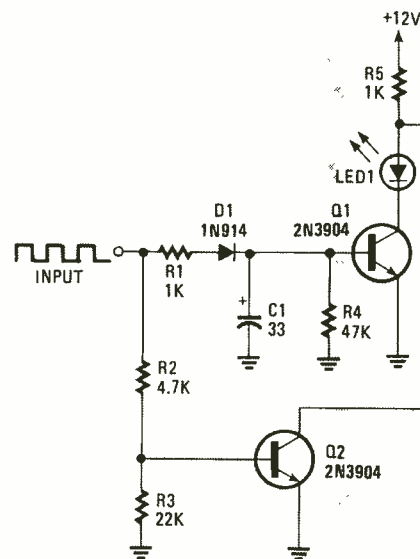

Fig. 4. The Stalled-Output Detector can be used as a building block to detect a stuck output or node in a circuit.
**Stalled-Output Detector.** This circuit can be used as a building block to detect a stuck output or node in a circuit. (See Fig. 4.) The input charges capacitor C1, which then biases Q1 (a 2N3904 transistor) on, causing the LED to light. If input is lost, Q1 turns off and the LED goes out. Should the input get stuck in the high state, Q2 blanks the LED.